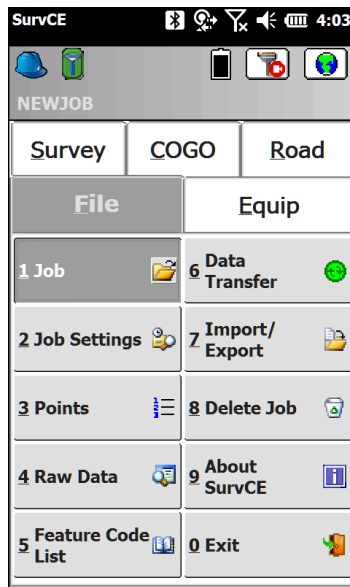

Figure 1
2. Start the SurvCE app and open a new or existing Job (Fig.1)